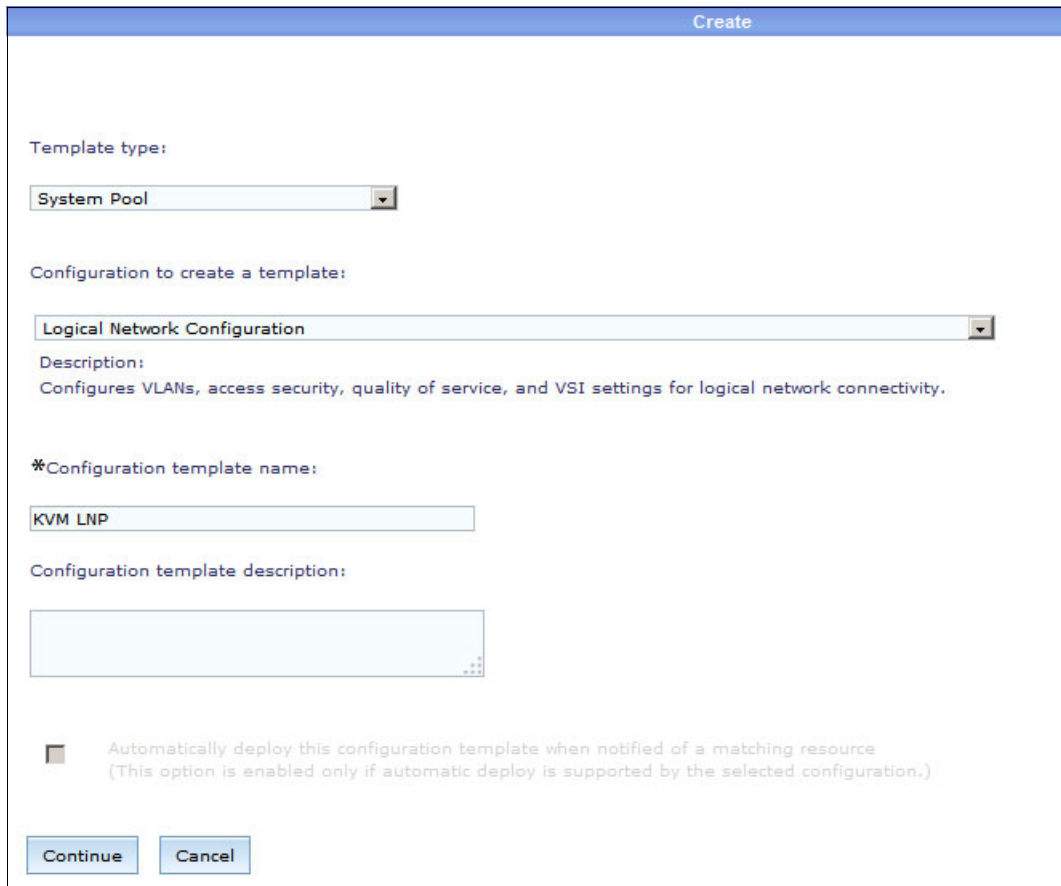

Figure 9-67 Creating a template
3. On the Create template page, for the template type, select **System Pool**. For the configuration to create a template, select **Logical Network Configuration**. Provide a configuration template name and optionally a configuration template description, as shown in Figure 9-67. Click **Continue**.